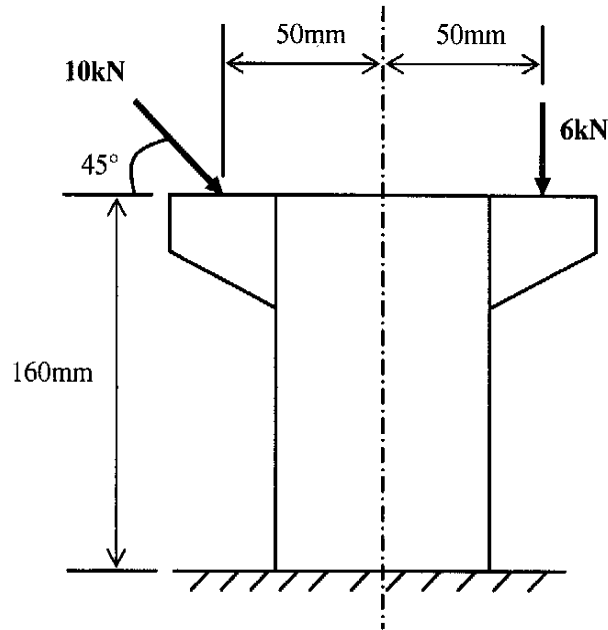

Fig Q6
- (a) the spring compression at the mean speed; (8)
- (b) the vertical movement of the sleeve if the speed increases by 5%. (8)
6. A short vertical hollow cylindrical column, 160 mm high and fixed at the base, is 70 mm outside diameter and 8 mm thick. It carries concentrated loads of 10 kN and 6 kN as shown in Fig Q6.